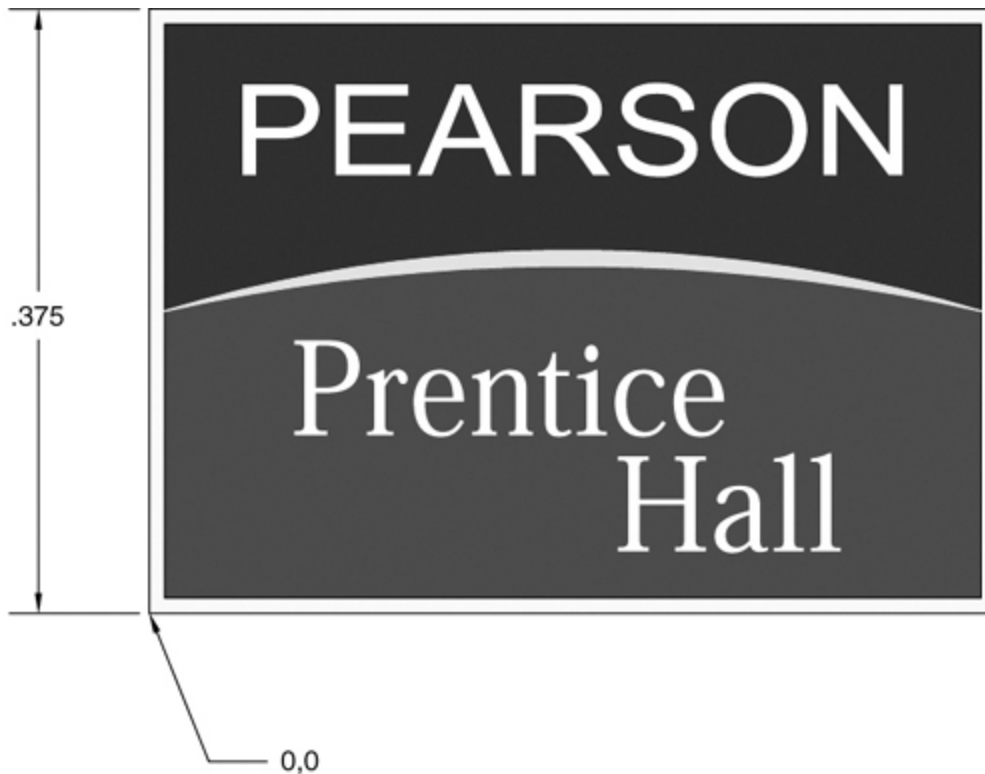

Figure 17-50
4. Add the text shown in Figure 17-50. All text is **0.375** high. Assign the color **255** directly to the text.
5. Scale the logo so the height is **.375**, as shown in Figure 17-50.